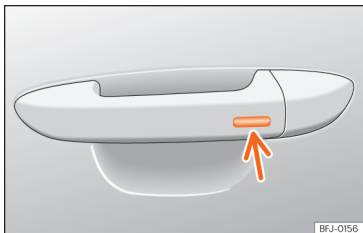

Fig. 61 Door handle: sensor surface.
- **OR:** using the Keyless Access system (only locking): Press and hold the locking sensor surface »» **Fig. 61** (arrow) on the door handle for several seconds to close the windows and the sunroof. If you release the sensor surface, the closing movement stops.
Press and hold the locking sensor surface **>>> Fig. 61** (arrow) on the door handle to close the sunroof. If you release the sensor surface, the closing movement stops.